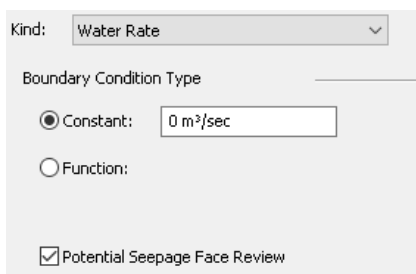

Figure 8. Conditions for a potential seepage face boundary.
Seepage will exit on the downstream face of the embankment. The location and size of the seepage area, however, is not known and cannot be specified. Determining this information becomes part of the SEEP/W solution. It is, however, necessary to indicate with a specified boundary condition where the potential seepage face will likely exist. This is done with the settings shown in Figure 8. The boundary condition needs to be a Water Rate (Q) boundary condition set to 0 m³/sec. Most importantly, the Potential Seepage Face Review option must be checked, as shown at the bottom of the dialog box in the figure.